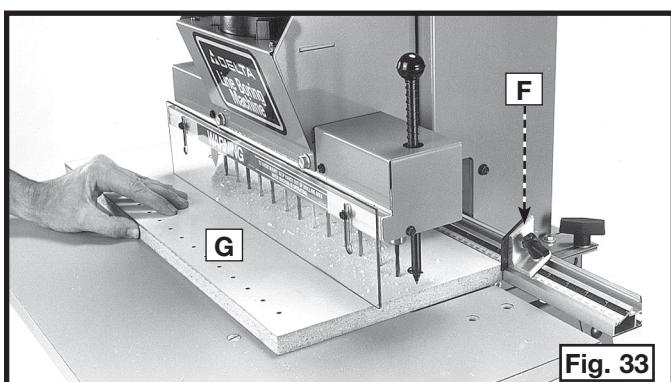

Fig. 33
2. The 13 holes are shown in Fig. 33, 1" (25.4 mm) in from the edge of the workpiece (G).
NOTE: The right stop (F) Fig. 33 has been pushed back so the workpiece can contact the fence surface.
3. Set the fence and table so that the fence is 4" (101.6 mm) away from the boring bits and turn the workpiece (G) Fig. 33 around so that the right edge of the workpiece (G) is against the right stop (F). The left stop can be pushed back so that the workpiece can contact the fence surface. Bore the additional holes (Fig. 33).